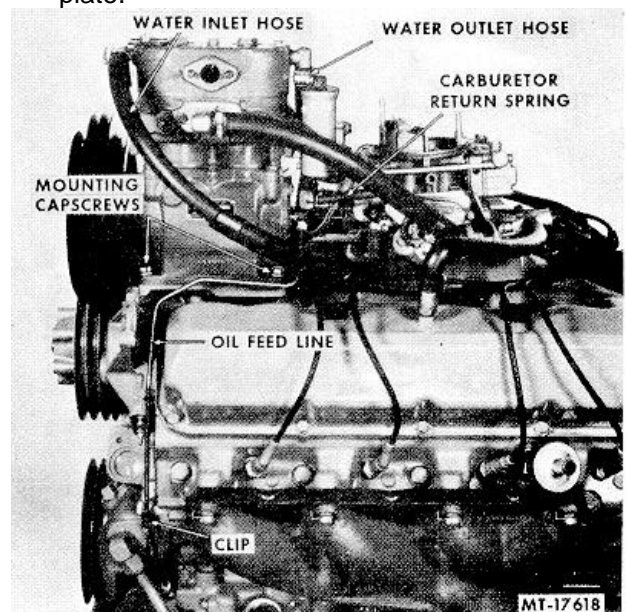

Fig. 18 Air Compressor Removal
16. Disconnect and remove water inlet and outlet hoses to air compressor (Fig. 18). Remove oil feed line and clip and carburetor return spring. Then remove mounting capscrews and washers; remove air compressor and mounting plate.